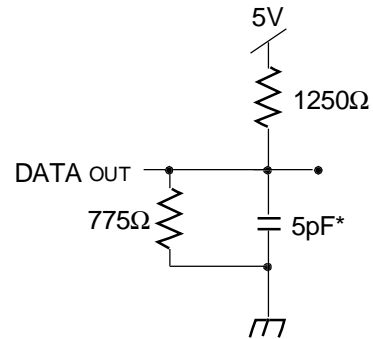

Figure 2. Output Test Load
1. Transition is measured $\pm 500\text{mV}$ from Low or High-impedance voltage Output Test Load (Figure 2).
1. Transition is measured $\pm 500\text{mV}$ from Low or High-impedance voltage with Output Test Load (Figure 2). This parameter is guaranteed by device characterization but is not production tested.